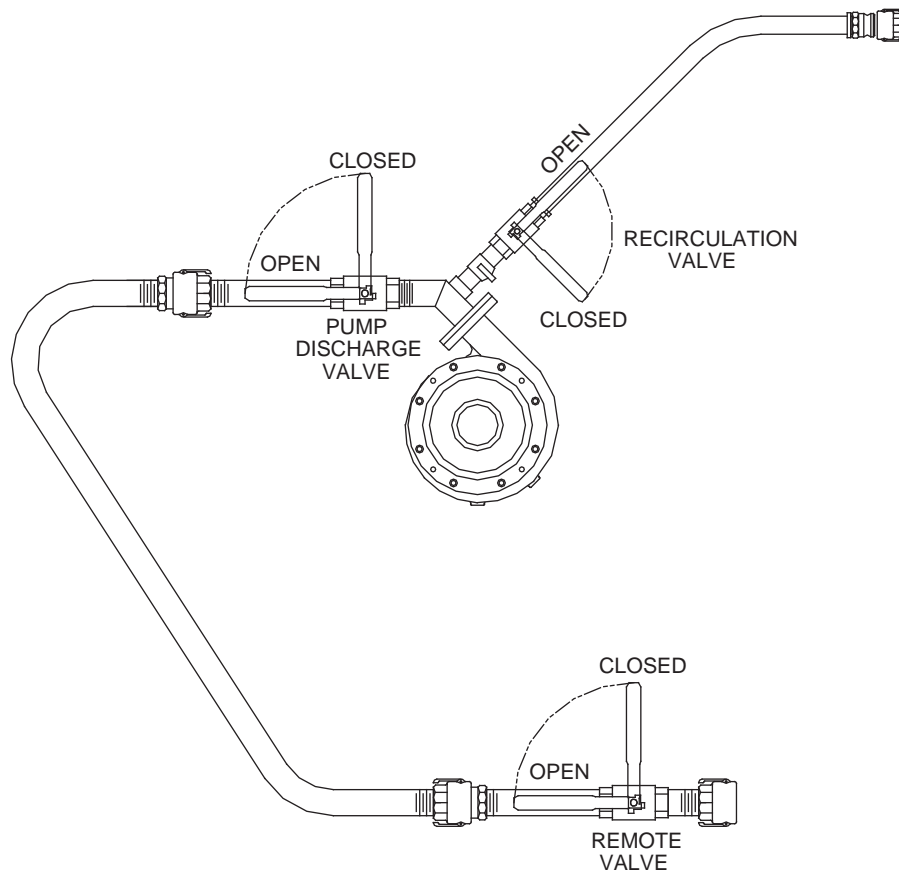

Figure 2 – Valve Operation (Standard and Hose Reel Only Units)
1. Discharge Hoses: Discharge hoses are available in 50 ft. (15.2 m) and 100 ft. (30.5 m) lengths up to a total of 150 ft. (45.7 m). Hose of a greater length may adversely affect the discharge distance and the discharge time of the HydroSeeder®. All connections are camlock, quick-operating fittings, including the connection at the end of the discharge piping. A nozzle is connected to the remote discharge valve which is connected to the working end of the discharge hose. Once everything is connected, the HydroSeeder® is ready to operate. Flow through the hose and the nozzle is controlled by the remote discharge valve. When using this valve, the recirculation valve on the HydroSeeder® **MUST BE OPEN** to allow excess material flow back into the tank (see Figure 2).
The base HydroSeeder® is equipped with three independently operated ball valves to control slurry flow. See Figure 2 below. The first valve is the recirculation valve. An open recirculation valve allows flow back into the tank. The second valve is the pump discharge valve. An open pump discharge valve allows slurry to flow through the discharge hose. The third valve, located at the end of the discharge hose, is the remote valve. An open remote valve allows discharge of the slurry onto the area being covered.